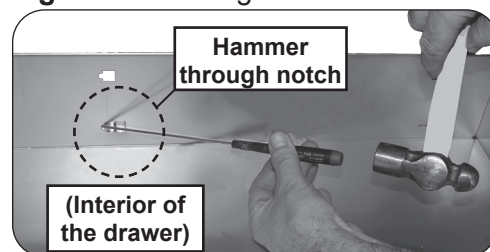

Fig. 5-3 Release tracking from drawer
2. From the interior of the drawer, use a flat head screwdriver and a hammer to tap the runners free (through the notches). See Fig 5-3.